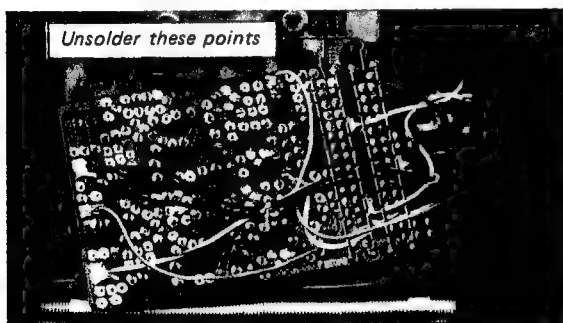

Fig. 2-10. IMPEDANCE selector switch removal
2. With a soldering-iron having a solder-sucking tip, clean the solder from each lug of the defective switch and the printed board as shown in Fig. 2-10. This frees the switch.